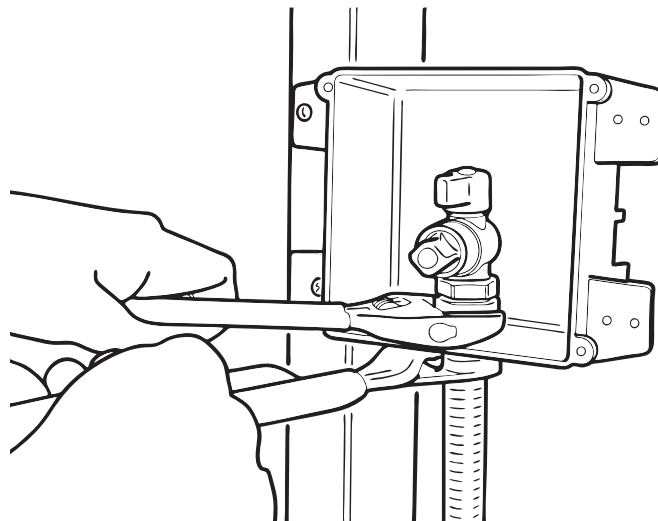

Figure: 4-36
7. Secure valve assembly to box with locknut (Figure 4-36).